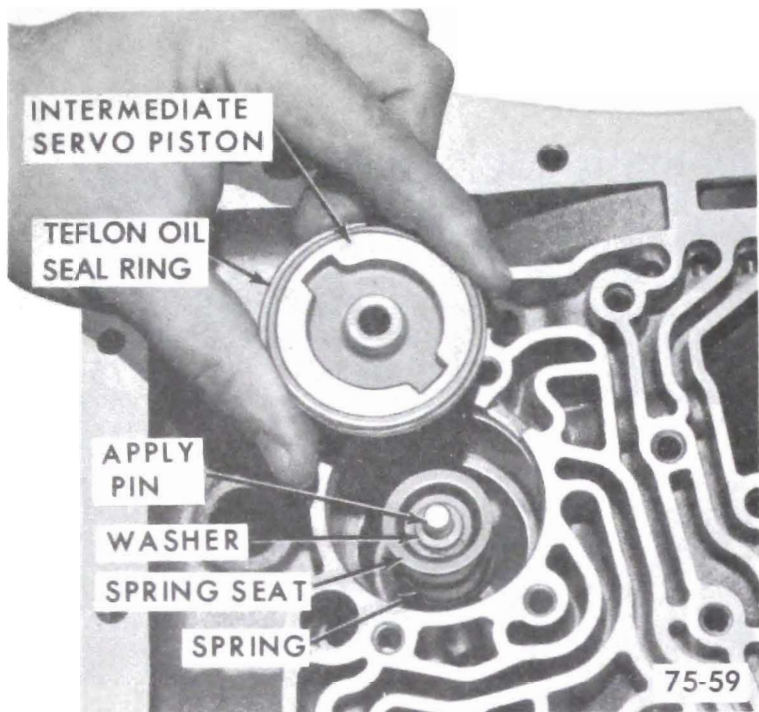

Figure 75-88
1. Remove intermediate servo piston and metal oil seal ring. Remove washer, spring seat and apply pin. See Figure 75-88.